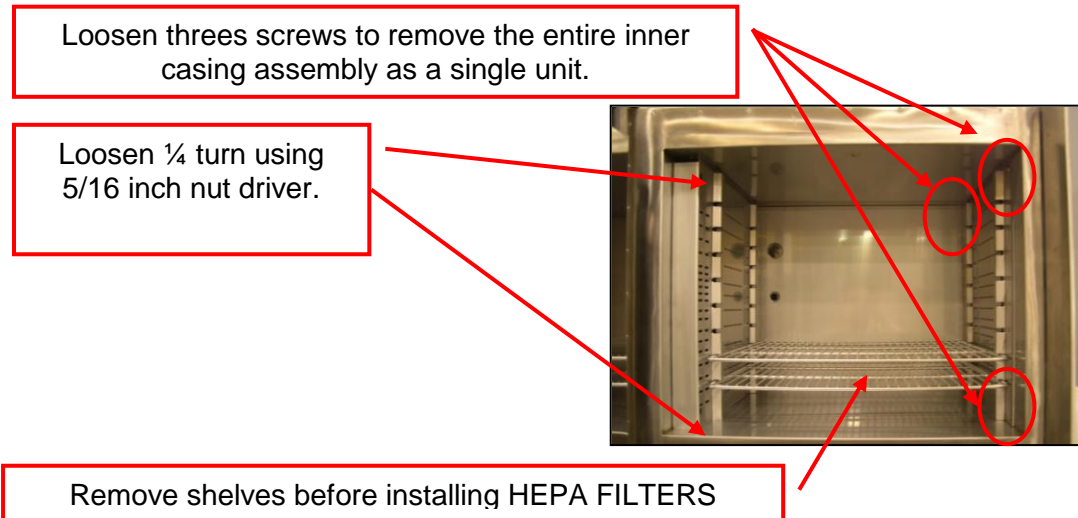

Figure 11. Remove inner casing to install HEPA filter.
3. Pull shelves from the oven and set aside (Figure 11).
4. Loosen the two screws at the upper and lower corners of the right rear of the chamber (Figure 11).